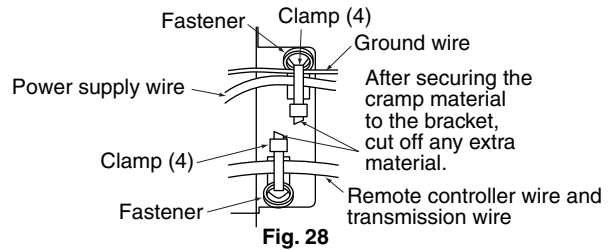

Fig. 28
Holding the control box lid, loosen the 2 securing screws, remove the control box lid, match up the phases on the power supply terminal block inside (2P), and make the connections. After this is done, use the attached clamp (4) to bind wire between units to the anchor point. (Refer to Fig. 28)